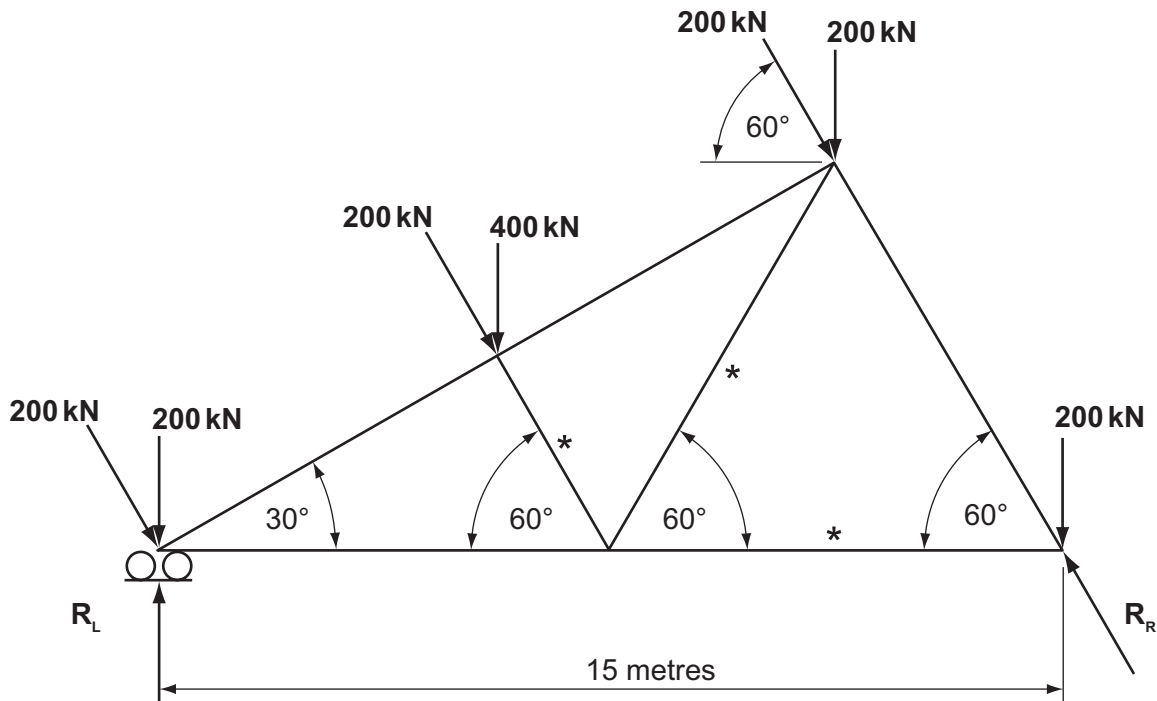

Fig. 5
- 5 Fig. 5 shows a pin-jointed roof truss carrying dead and wind loads as indicated. The truss is supported at the left hand end by a frictionless roller.